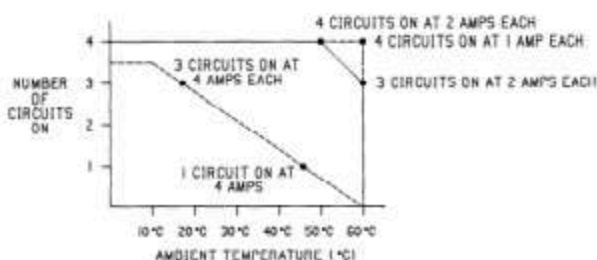

Figure 6.27 I/O POINTS VS TEMPERATURE CHART
*Maximum load current is dependent on ambient temperature as shown in Figure 6.27.